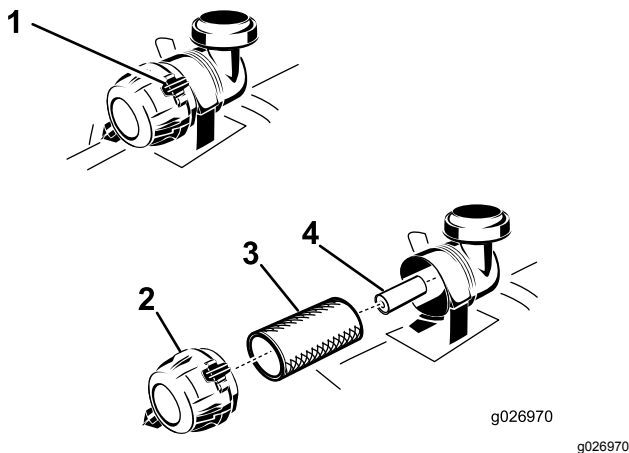

Figure 36
3. Push down to release the retaining clamps on the air cleaner and pull the air-cleaner cover off the air-cleaner body (Figure 36).
5. Gently slide the primary filter out of the air-cleaner body (Figure 36).
2. If the secondary filter is being replaced, carefully slide it into the filter body (Figure 36).
3. Carefully slide the primary filter over the secondary filter (Figure 36).
5. Install the air-cleaner cover with the breather cap down, and rotate so that the retaining clamps lock the cover in place (Figure 36).